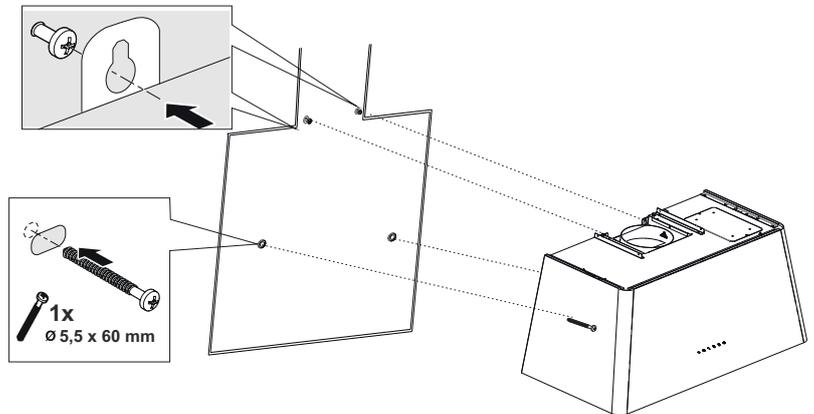

Fig. 15
1. ➤ Hold the appliance by its body and place it on the suspension screws on the wall and tighten the screws (Fig. 15).
2. ➤ Fix the appliance with 2 piece 5.5 x60 screws through the mounting hole on the interior of the appliance (Fig. 15).